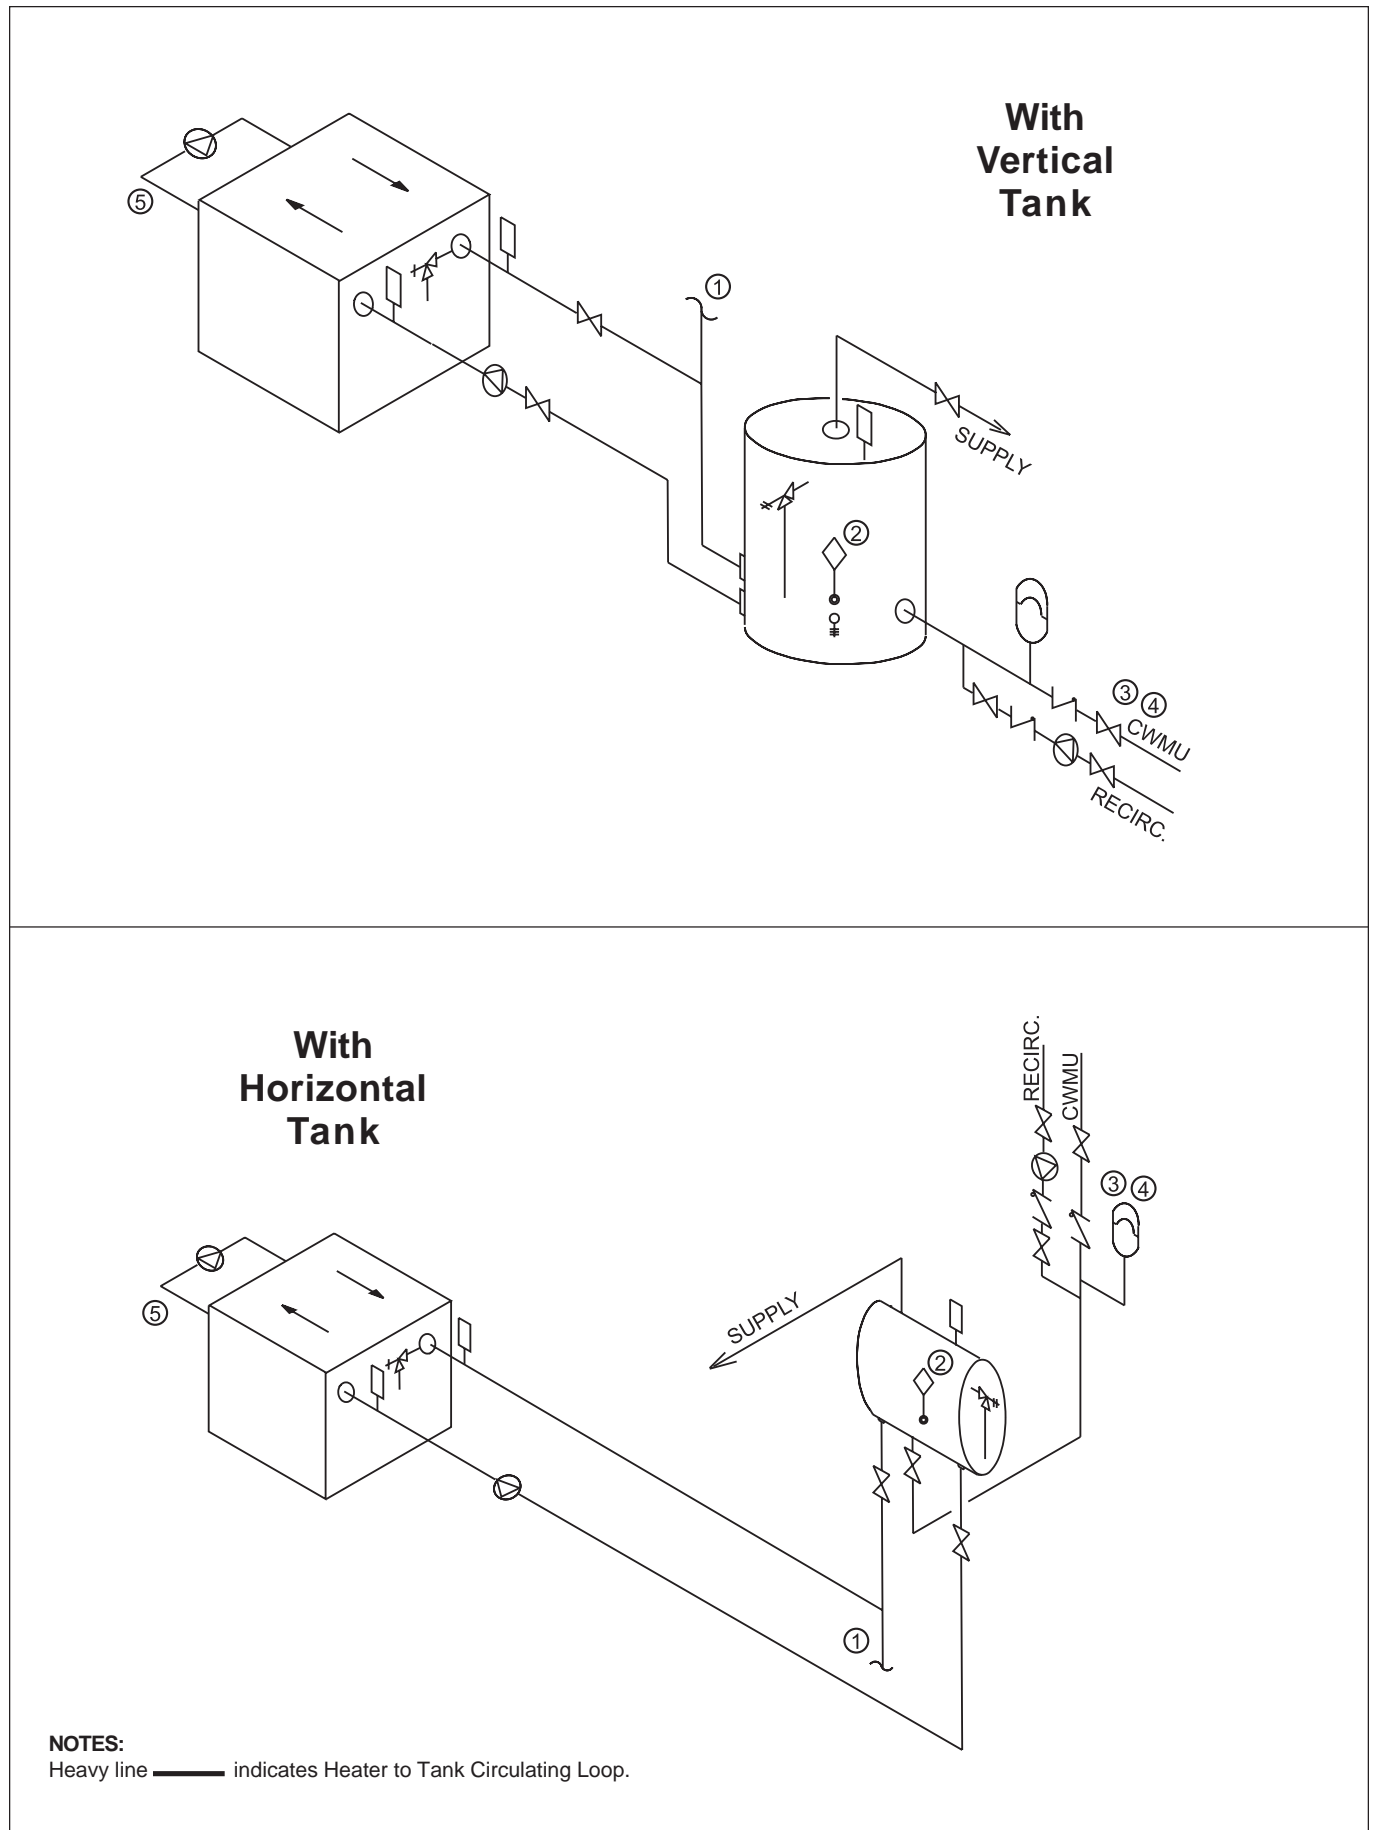

Figure 11. Hot Water Supply System (Model VW & PW).
- The factory provided pump on **PW** heaters and the recommended field provided pump for model **VW** heaters are sized to provide proper circulation through the heater and heater-to-tank circulation loop (see Figures 11 and 12). If the heater-to-tank circulating loop **does not contain more than 6 elbows or 30 feet of pipe**, use pipe fittings in the loop no smaller than the following: